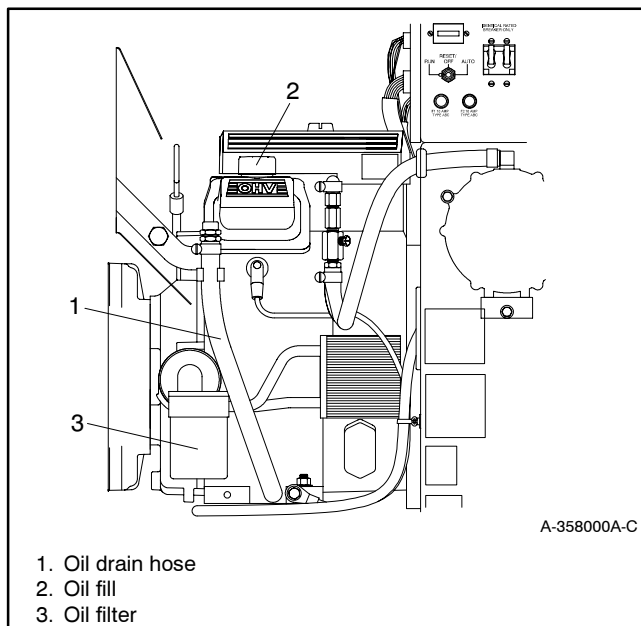

Figure 2-5 Engine Service Side
- e. Remove the oil drain hose from its retaining clip. See Figure 2-5. Remove the cap from the oil drain hose and lower the hose into an oil collection container.